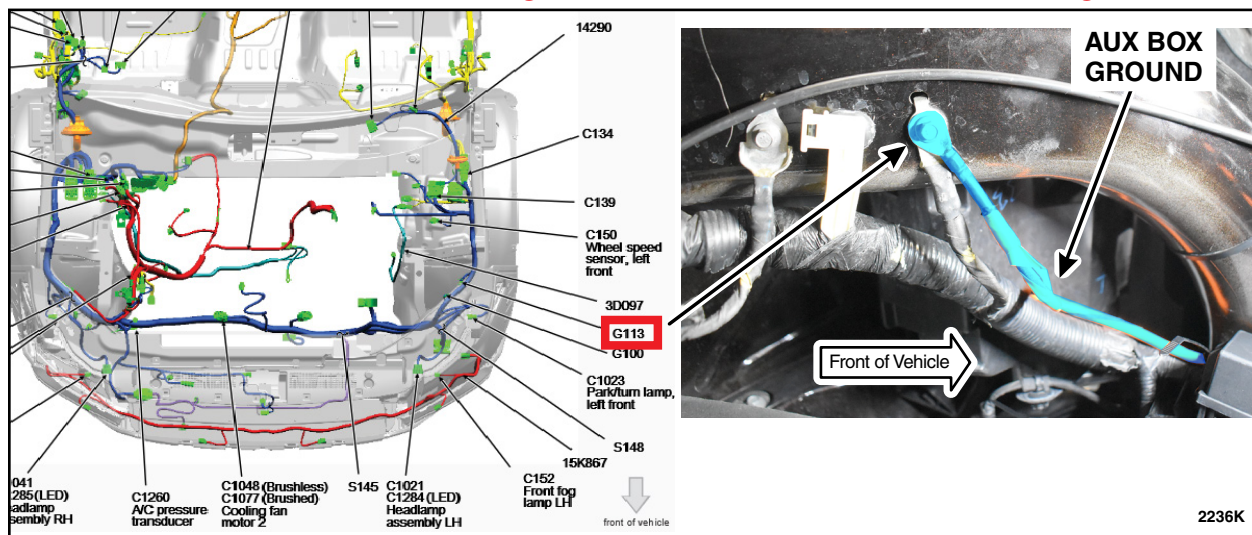

FIGURE 16
19. Install aux box ground on top of existing ground (Ground #113). **Torque 9.0+/-1.4 N-m.** See Figure 16.